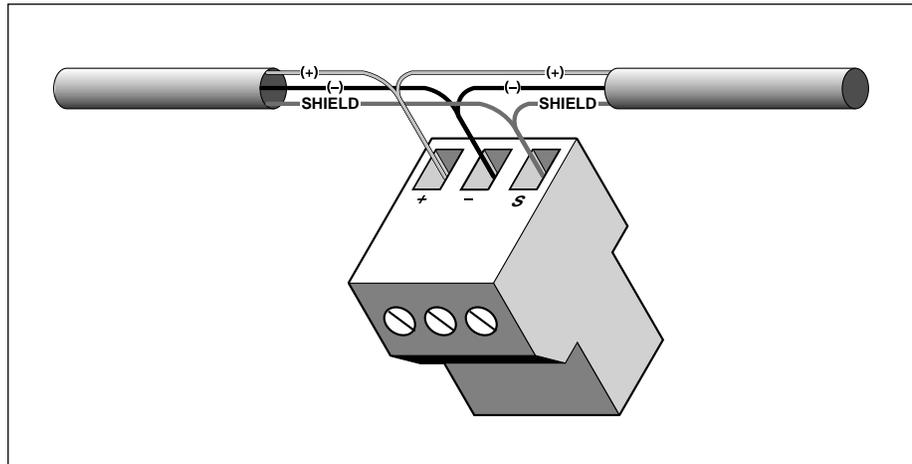

Figure 7: Wiring the RS-485 terminal block
Connect to Modbus network. Figure 7 on page 8 shows how to connect RS-485 communication wires.
5. Attach the RS-485 communication wires to the terminal block as shown in figure 7, page 8. Then plug the terminal block into the red CT. (See Appendix C for additional communications information.)